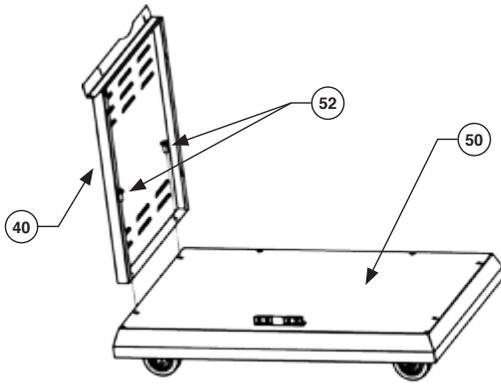

FIG 1
1. Secure Left Plate (40) on the Platform (50) with $\frac{1}{4}$ -20* $\frac{1}{2}$ Bolt (52). As shown in FIG 1.